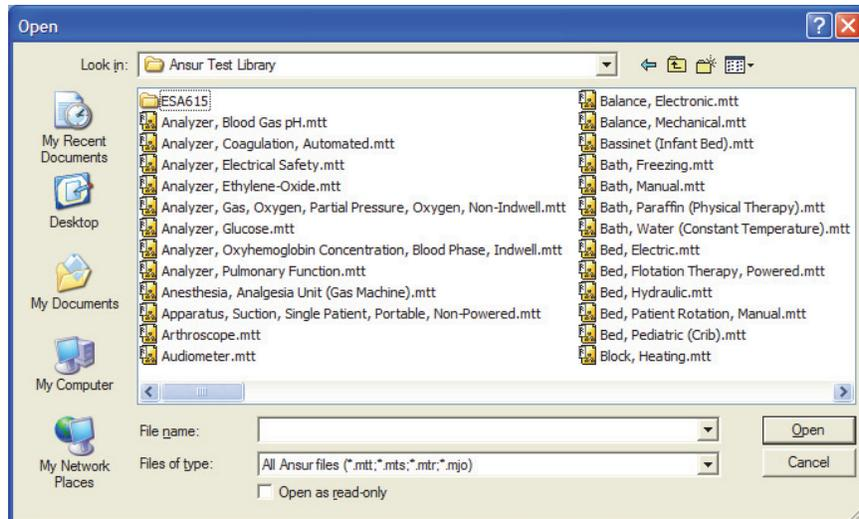

Figure 3-2. Browse the Ansur Test Library
2. Browse to the folder where Ansur was installed and double-click the Ansur Test Library folder. See Figure 3-2. The usual location is C:\Program Files\Fluke but it could be in a different name location on your PC.